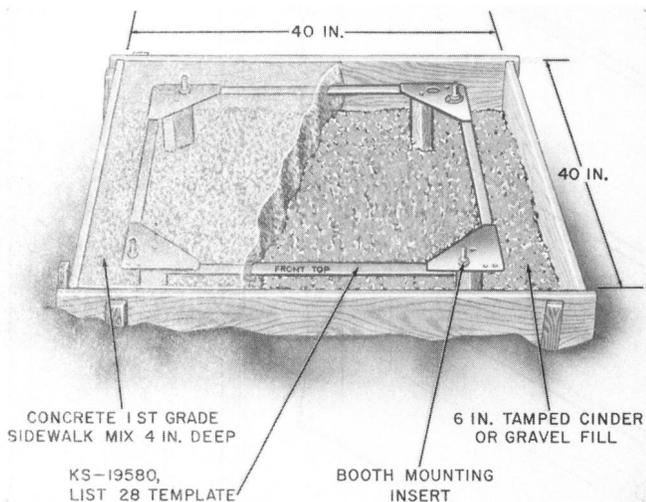

Fig. 12—Concrete Base Preparation with KS-19580, List 28 Template
- (a) Prepare a form 40 inches square with an inside depth of 10 inches (Fig. 12).
- (c) Position the template in the form on wooden blocks so that the top of four mounting inserts will be flush with concrete base as shown in Fig. 12.